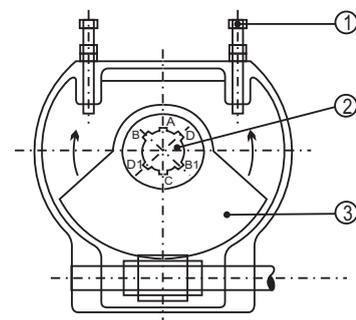

FIG NO. 2
C) SETTING OF MECHANICAL END STOPPERS : REFER. FIG. No. 2